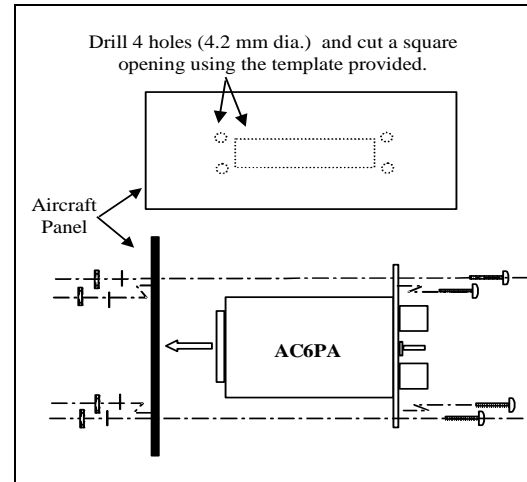

Fig. 1: Panel preparation/intercom mounting
3. **Panel preparation:** Use the clear adhesive template provided as a pattern and position it over the selected area of the instrument panel. Cut the square opening following the template. Mark the position for the mounting screw holes, center punch the cross lines, and drill the four 4.2 mm diameter holes (Fig. 1). Slide the intercom in place. Check fit and position of the drilled mounting holes, modifying aircraft panel if needed. Remove intercom.
- 6. **Test Audio Panel function:** (1) Audio In – Use a mono-stereo 3.5 mm phone plug adapter cord (not supplied) and plug into the stereo source (CD, MP3, or tape player). With headset on, turn on the intercom and the music source. Adjust the volume on the music source (volume is controlled by the music source not the intercom). When you speak through the headset, the music will automatically mute. Repeat steps 3 and 4. Make sure the music mutes when the squelch is broken by your voice or when you receive a transmission from the ATC through the intercom. (2) Audio Out – Using a mono-stereo 3.5 mm phone plug adaptor cord, plug into the microphone input jack on the recording devise (tape recorder, video camera etc). Turn recorder on and repeat step 2. Rewind the recorder and play back. Both sides of the conversation with the pilot, co-pilot, passengers and ATC will be recorded.
- 7. **Final connections:** Remove the DB25 connector from the intercom. Route the completed wire harness into the instrument panel to the location of the back of the intercom. Make sure the wires are not kinked, caught, or squeezed by any other equipment behind the instrument panel. To prevent wire movement and vibration, secure the wire bundles with nylon wire ties (not supplied in kit). Slide the intercom in place and install the intercom mounting screws (Fig. 1). Connect the DB25 connector to the back of the intercom.